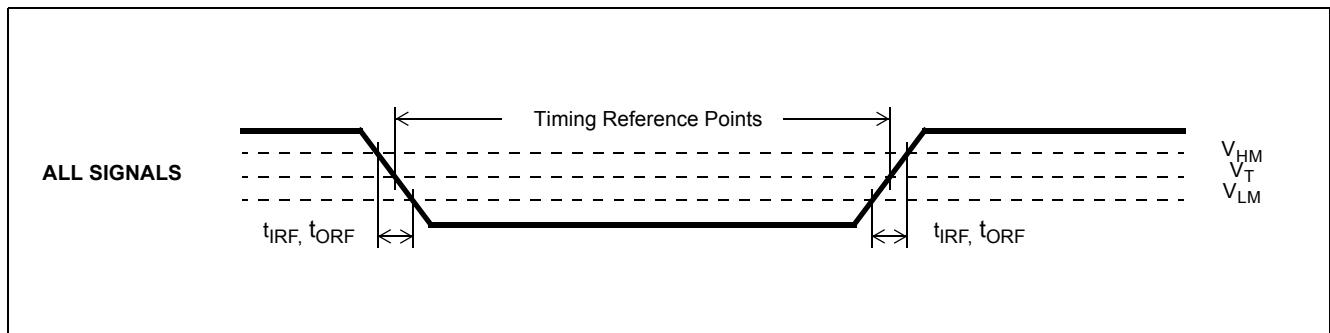

Figure 22 - Timing Parameter Measurement Voltage Levels
**AC Electrical Characteristics\* - Timing Parameter Measurement Voltage Levels (see Figure 22).**